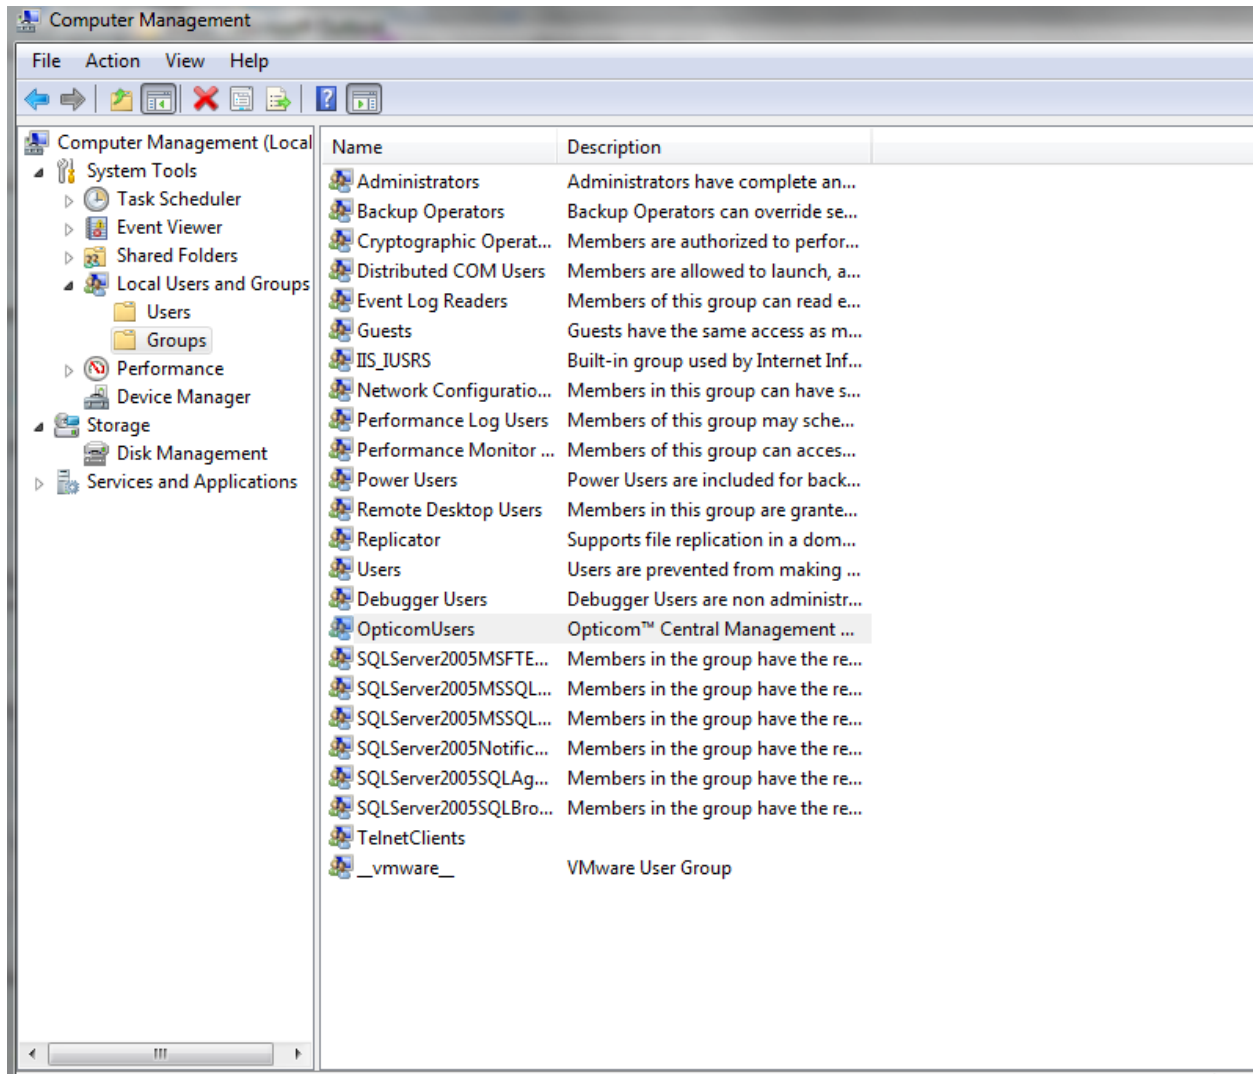

Figure 3-17
1. Double click the **OpticomUsers** group. See Figure 3-17.